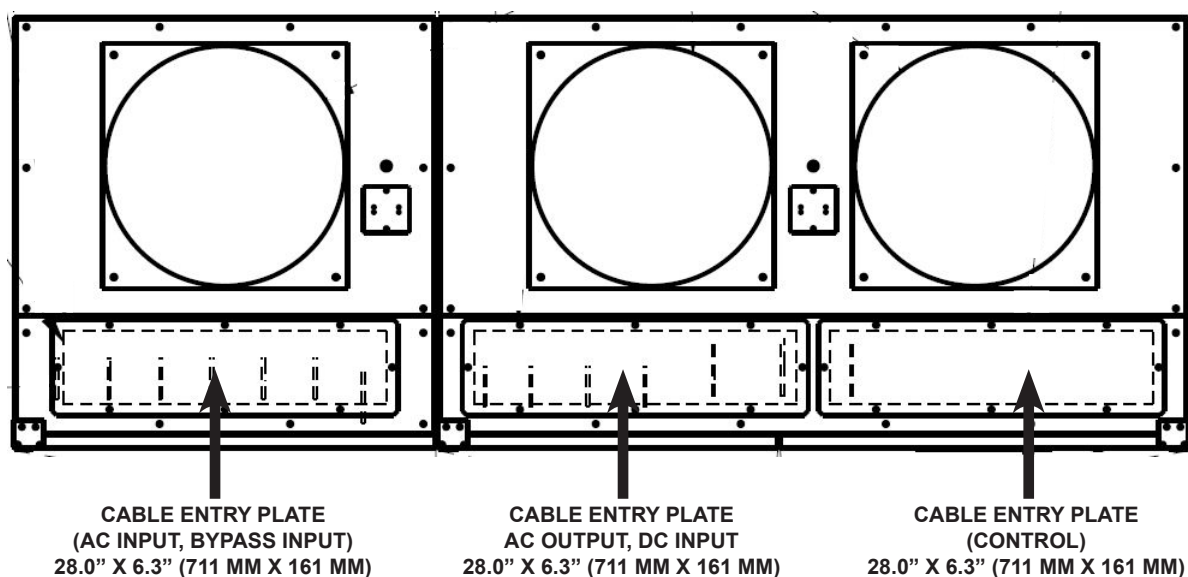

FIGURE 11.13 - TOP CONDUIT LANDING PLATES FOR THE 500 KVA UPS
Figure 11.13 shows the three (3) conduit landing plates provided at the top of the 500 kVA UPS. The dashed rectangle indicates the UPS opening behind the conduit landing plates.